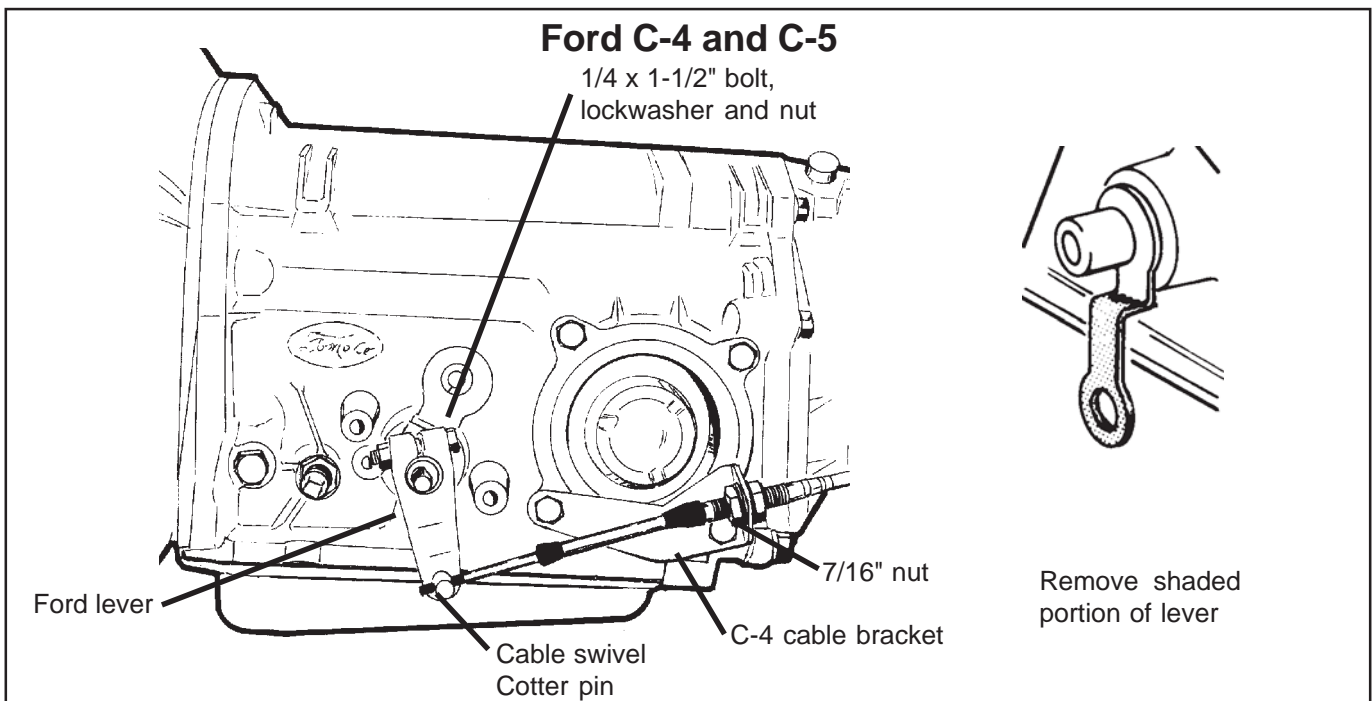

Figure 6
STEP 16. Install the **B&M** selector lever (See Figure 6 or 7). **Note:** The **B&M** lever must point downward for proper operation. If the stock shift lever on your transmission points down, you will have to remove the lower part of the stock arm by cutting it off to clear the **B&M** lever (See Figure 6). Install the **B&M** selector lever onto the shift shaft of the transmission. Align the selector lever so when it points straight down it travels equal arcs in both directions from the center, then tighten the 1/4"-20 x 1 1/2" pinch bolt and nut. The lever should travel smoothly from front to back with a positive click in each gear position. Make sure the O-ring is in position on the downshift shaft and install the downshift lever in position on the shaft. Install the lockwasher and the nut and tighten securely. The downshift lever must operate smoothly. Reconnect the downshift linkage.
C-4, C-5: Remove the two lower bolts from the rear servo cover. Install the cable bracket in position (See Figure 6). Install the two servo cover bolts as removed and tighten to 12-13 lb.ft. Do not overtighten as this can distort the servo cover.